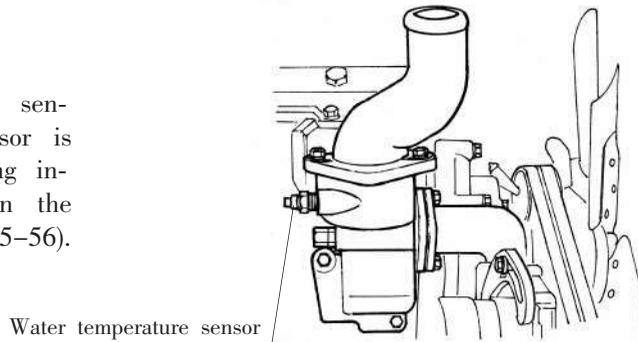

Fig 5-56 Water Temperature Sensor
8.3 Water temperature sensor: water temperature sensor is connected with the detecting instruments, and installed on the thermostat housing (see Fig 5-56).